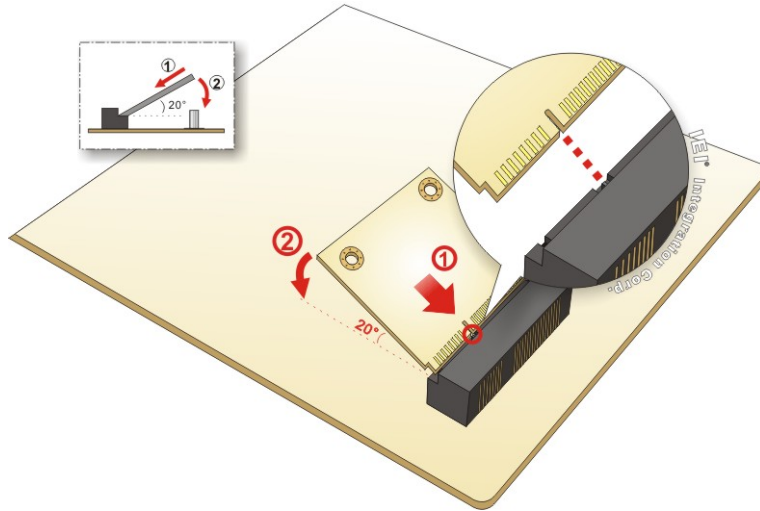

Figure 3-10: Inserting the Half-size PCIe Mini Card into the Slot at an Angle
Step 4: Line up the notch on the card with the notch on the slot. Slide the PCIe Mini card into the slot at an angle of about 20° (**Figure 3-10**).